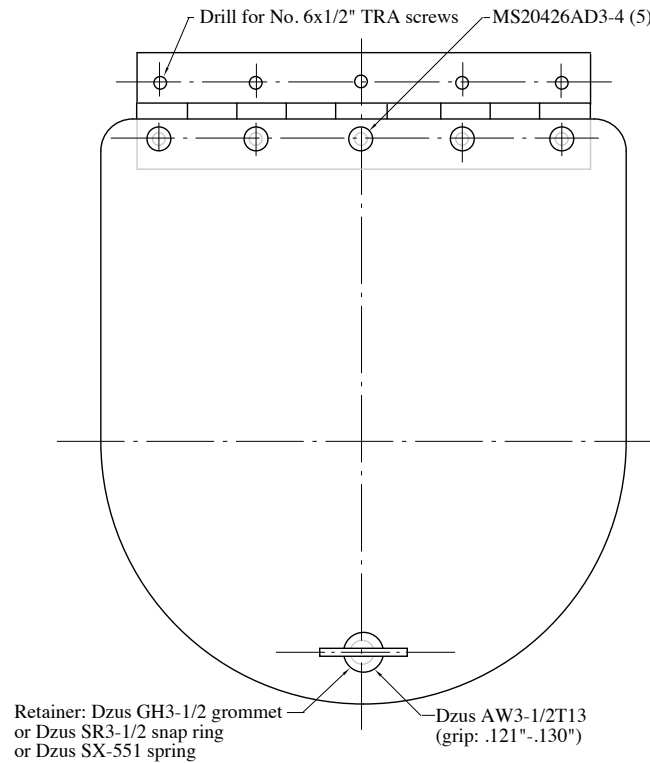
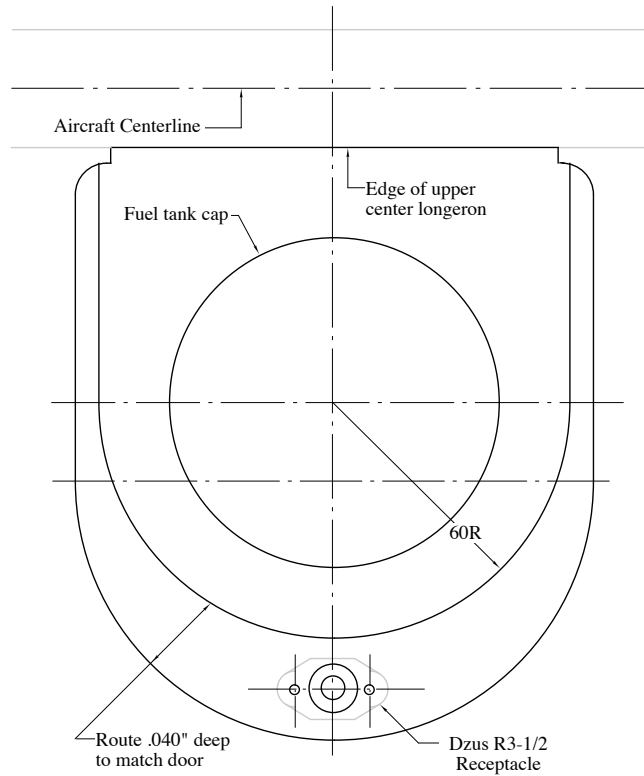
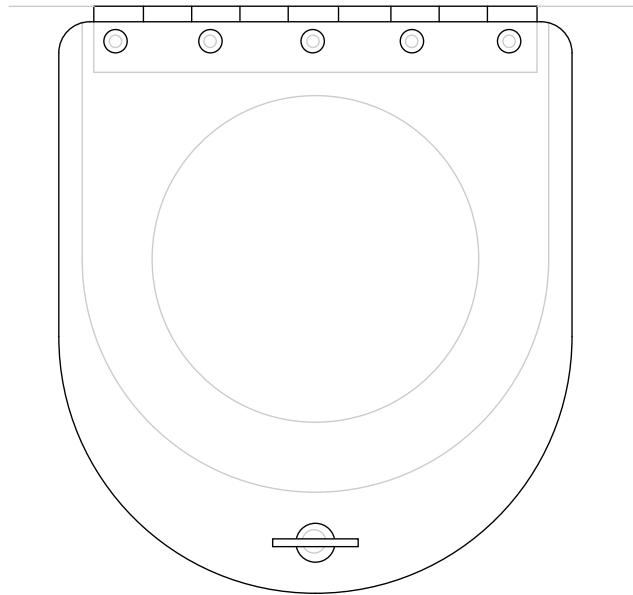

Figure 3
Figure 4
Figure 5
- ❑ Install the hinge on the door. See Figure 3.
□ Install the Dzus receptacle under the plywood. See Figure 4. The receptacle may be installed with soft MS20426A3-5 rivets or with flat head screws. Some epoxy on the receptacle is probably also a good idea. Before you do this, check the grip of the Dzus fastener and add plywood on the lower surface as necessary. The grip length of the fastener is shown on Figure 3.
❑ Install a Dzus fastener on the door using a grommet, snap ring or spring. See Figure 3. The final installation is shown in Figure 5.